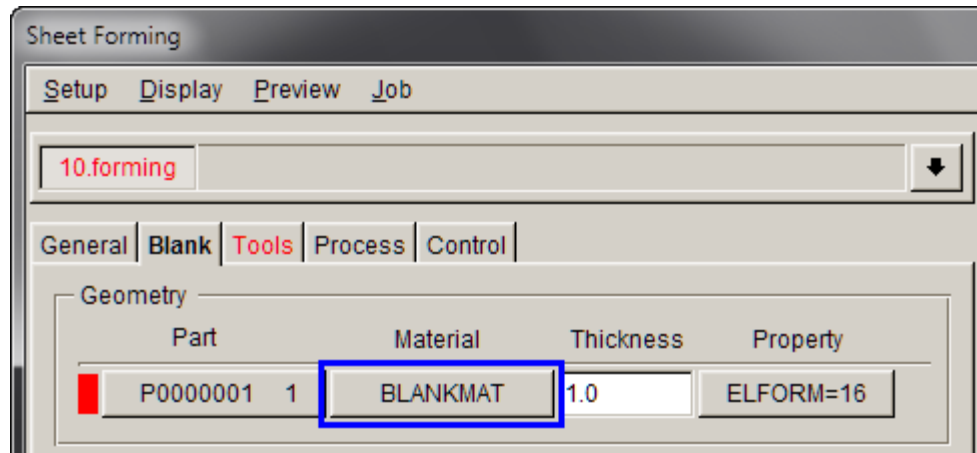

Figure 10
1. Click the button below **Material** to define the structural material model (Figure 10).